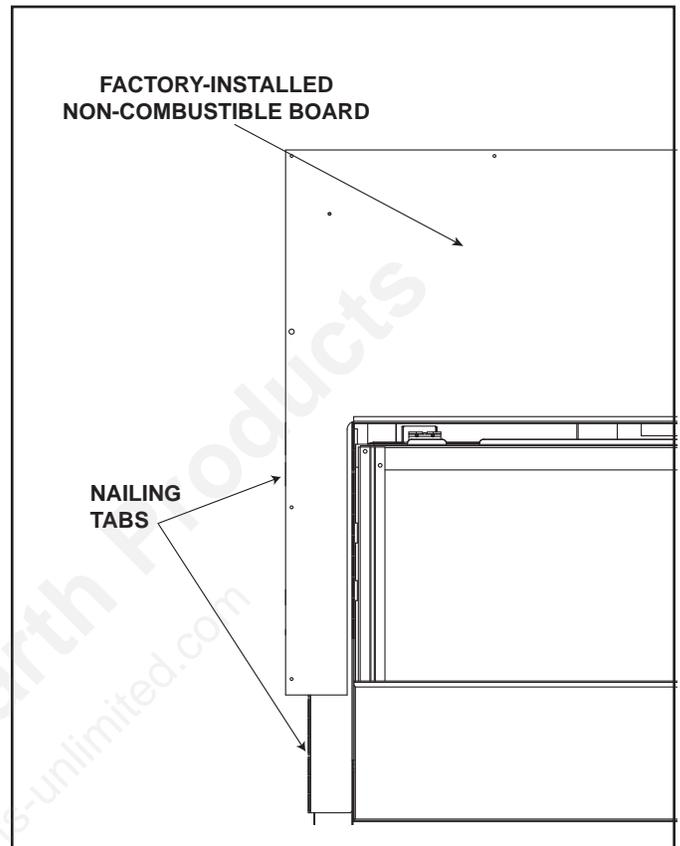

Figure 13.1 Nailing Tabs Installation Position
1. Bend two nailing tabs away from fireplace 180 degrees on both left and right nailing tabs. See Figure 13.1.